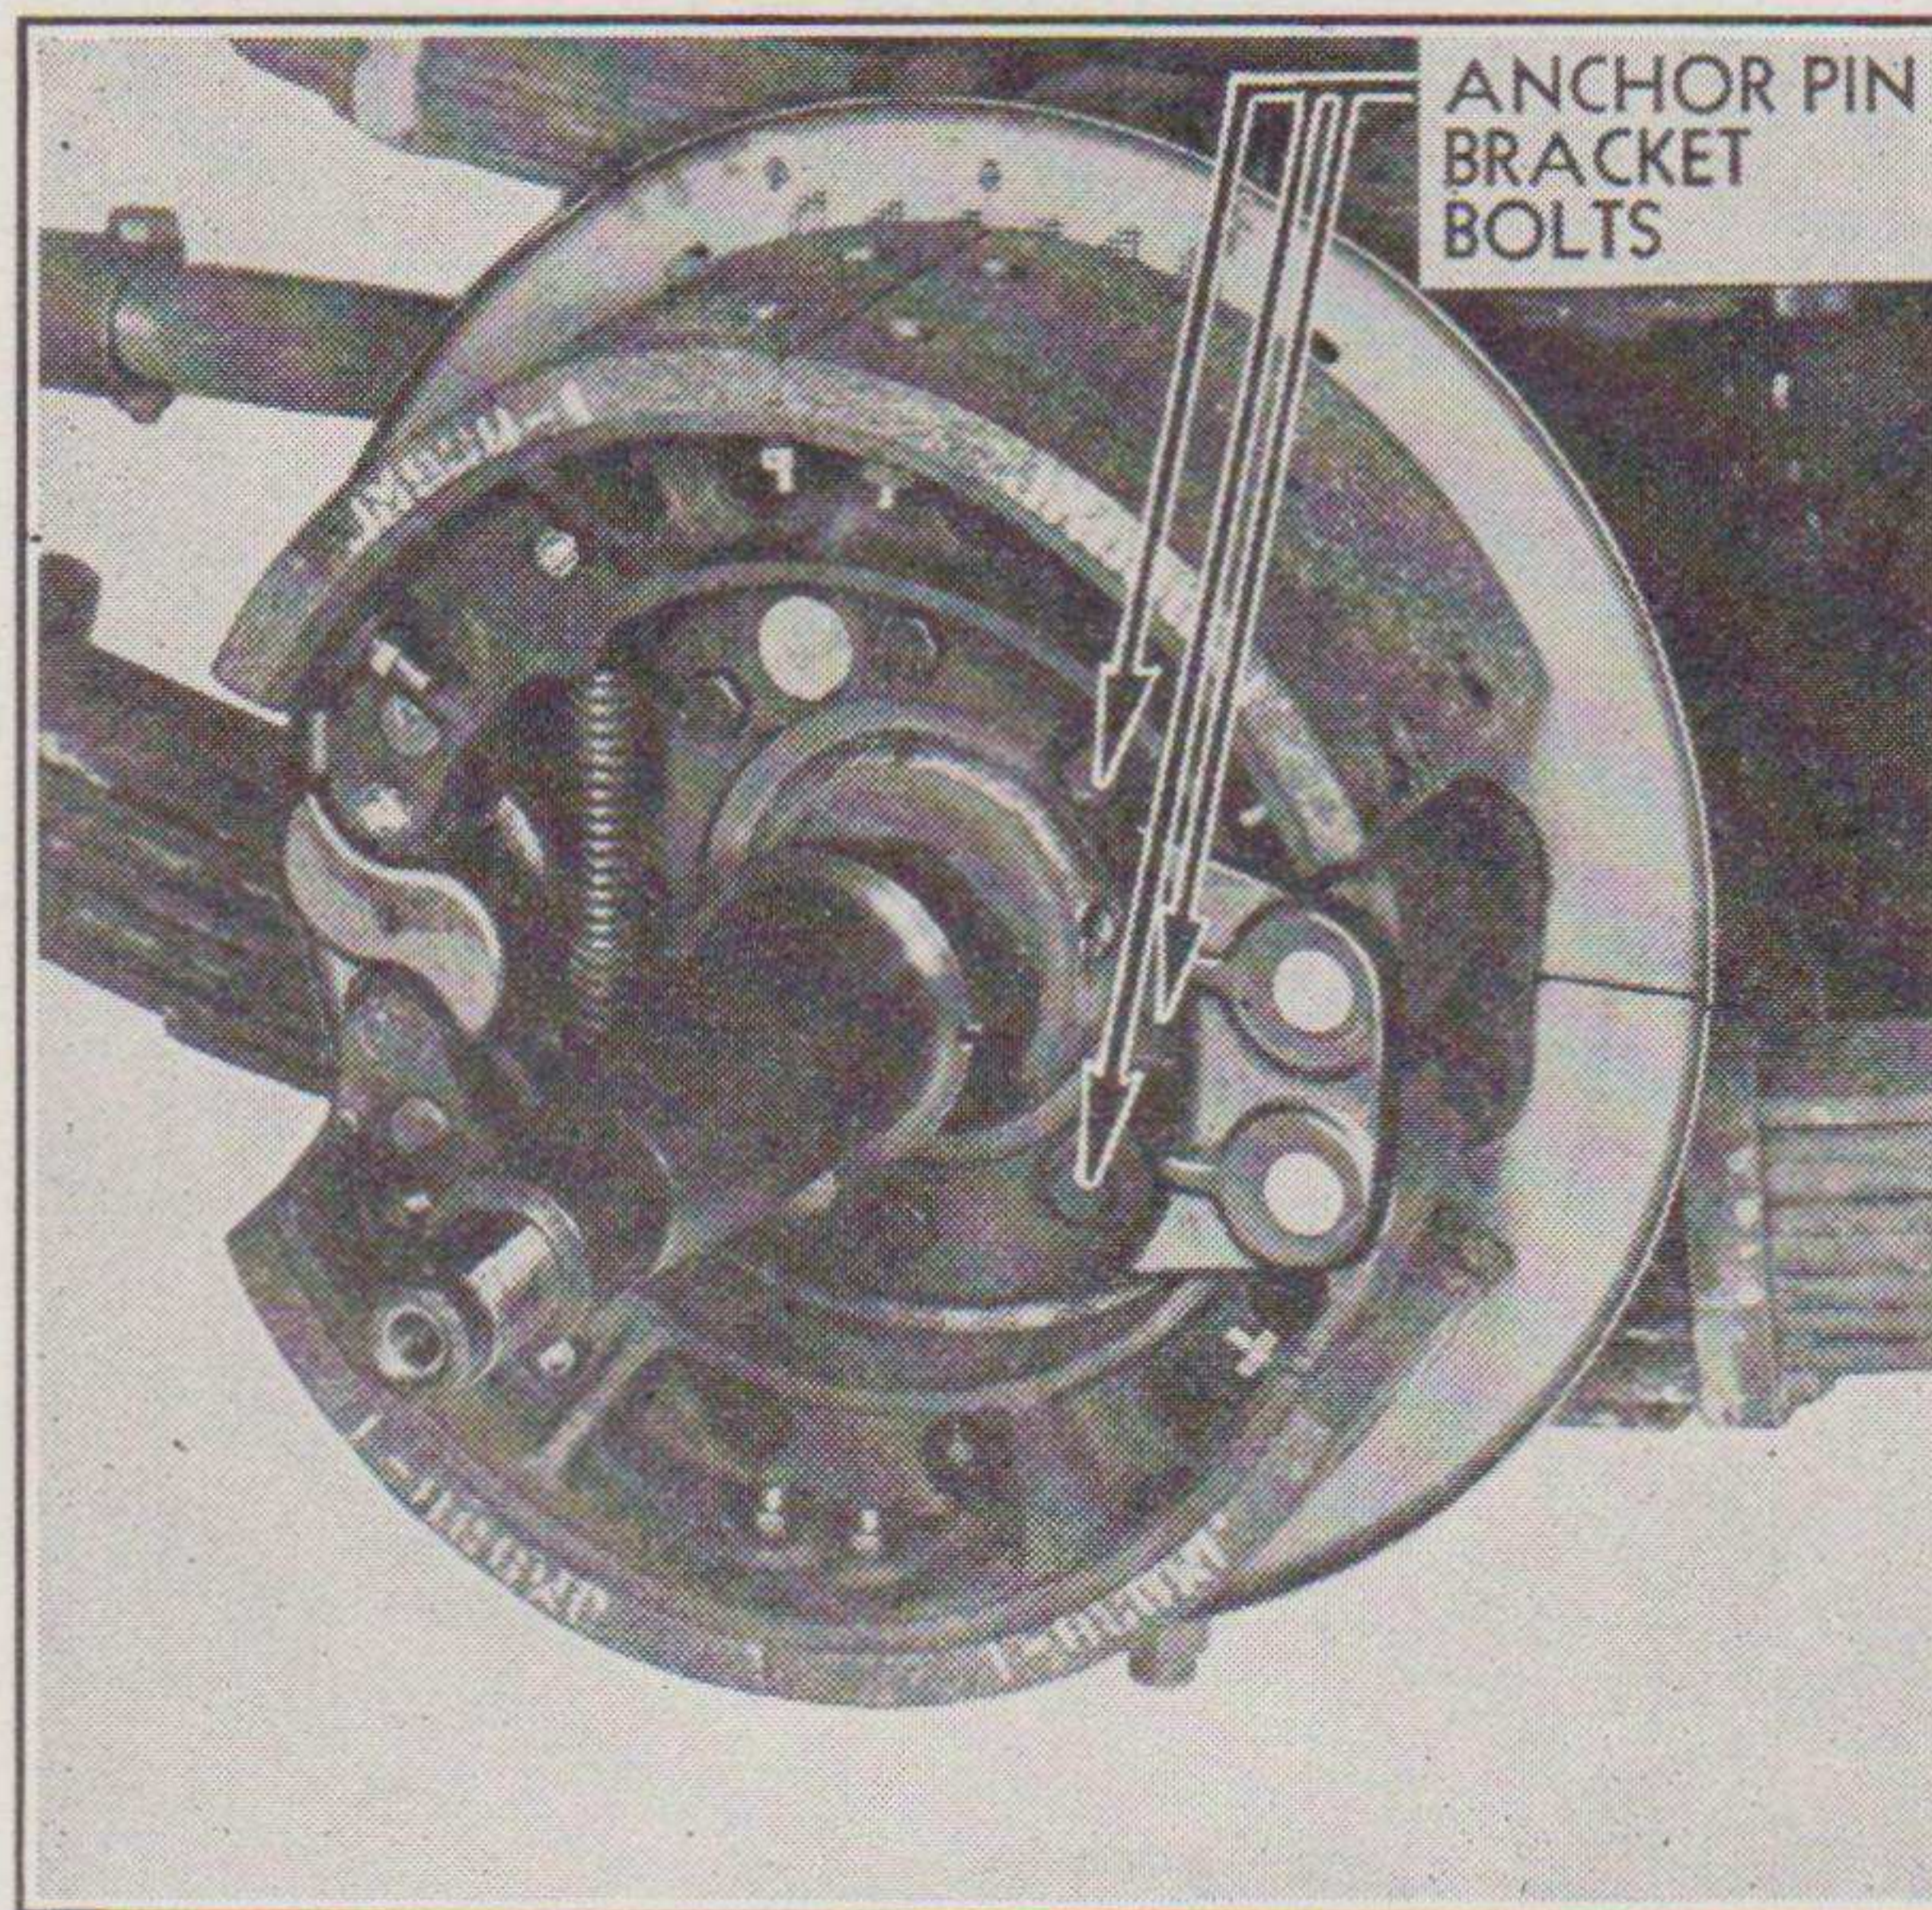

FIGURE 16. REPLACING BRAKE SHOES
- (1) Remove clevis pin in top hole of the slack adjuster arm.
- (2) Loosen clevis lock nut on brake rod and turn clevis to shorten the rod about $\frac{1}{4}$ ".
(3) Install brake rod in the slack adjuster arm and turn wheels with the parking brake wheel in "off" position to determine whether they still turn freely. Drag usually indicates that the brake rod has been shortened too much and should be adjusted accordingly.
(4) Assuming that the wheel still turns freely, set the parking brake wheel. If the wheels fail to hold firmly shorten the brake rod until they do.
7. BRAKE SHOES.—*a. Replacing Brake Shoes* (Refer to Figure 16).